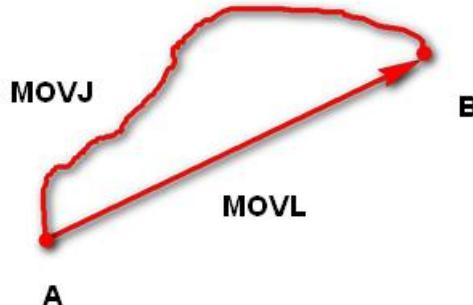

Figure 1.1 MOVL/MOVJ mode
- MOVJ: Joint movement. From point A to point B, each joint will run from initial angle to its target angle, regardless of the trajectory, as shown in Figure 1.1.
- MOVL: Rectilinear movement. The joints will perform a straight line trajectory from point A to point B, as shown in Figure 1.1.